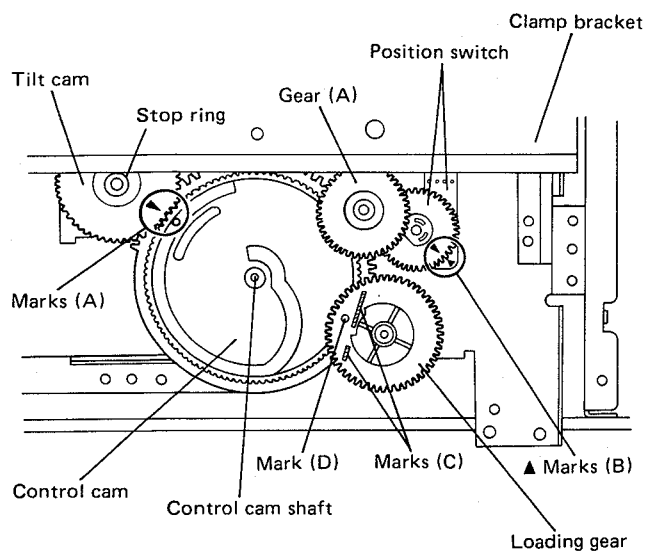
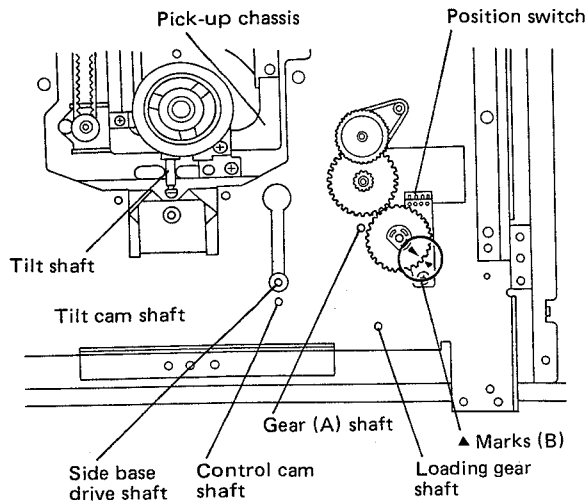

Fig. 11
Fig. 15
1. Turn the control cam clockwise until it stops. (Fig. 11)
2. Check that the marks (A) and the marks (B) are aligned properly.
- If the marks (A) are not aligned properly, refer to "ATTACHING THE CONTROL CAM".
- If the marks (B) are not aligned properly, remove the gear (A) and align them. Once the marks (B) are aligned, replace gear (A).
1. Set the slide base drive shaft to the closest position to the control cam shaft. (Fig. 15)
5. Align the mark (A) on the control cam with the mark (A) on the tilt cam, and mount the E-clip on the tilt shaft. (Fig. 11) When the tilt cam is attached, the control cam may rotate counterclockwise due to the weight of the pick-up chassis. Return the control cam by turning it clockwise until it stops.
6. Align the mark (B) on the position switch as shown in Fig. 11 or Fig. 15.
7. Attach the gear (A) and mount the retaining ring. (Fig. 11)
8. Attach the loading gear so that its mark (D) points to the control cam shaft and mount the retaining ring. (Fig. 11)